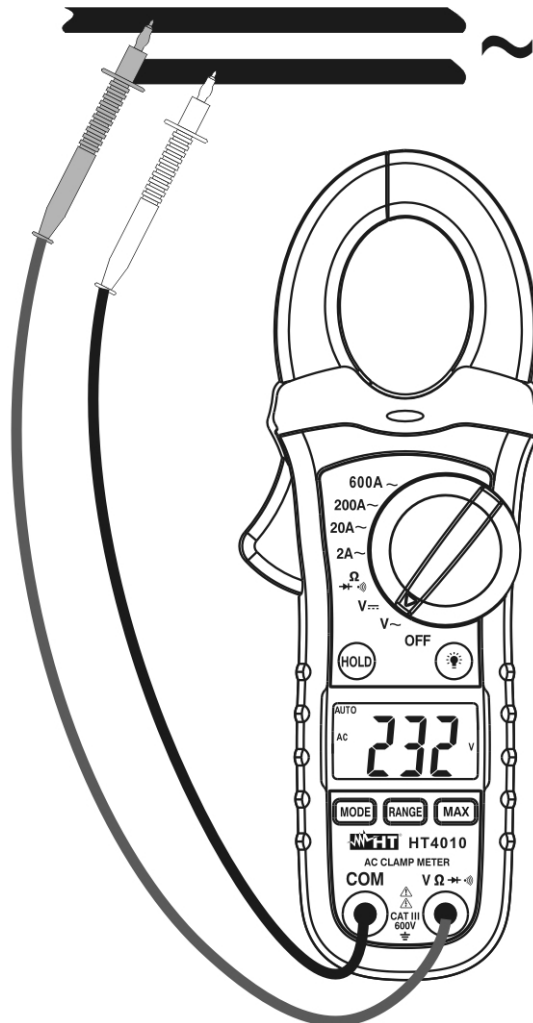

Fig. 3: Taking AC voltage measurement
4. Insert the red test lead plug into $V\Omega\rightarrow\bullet\bullet\bullet$ jack and the black test lead plug into **COM** jack (see Fig. 3)
5. Connect the two long ends of test leads to the desired circuit (see Fig. 3) then reading will be displayed